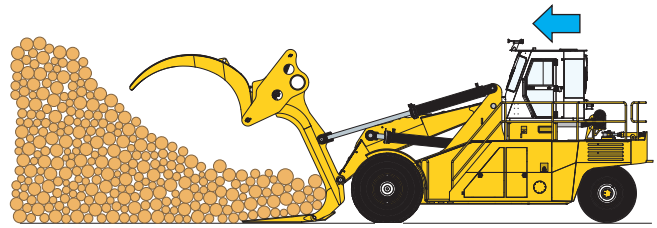

Figure 4-9-1
3. Approach the pile with enough speed to utilize the machine's momentum to fill the carriage. (See Figure 4-9-1.)